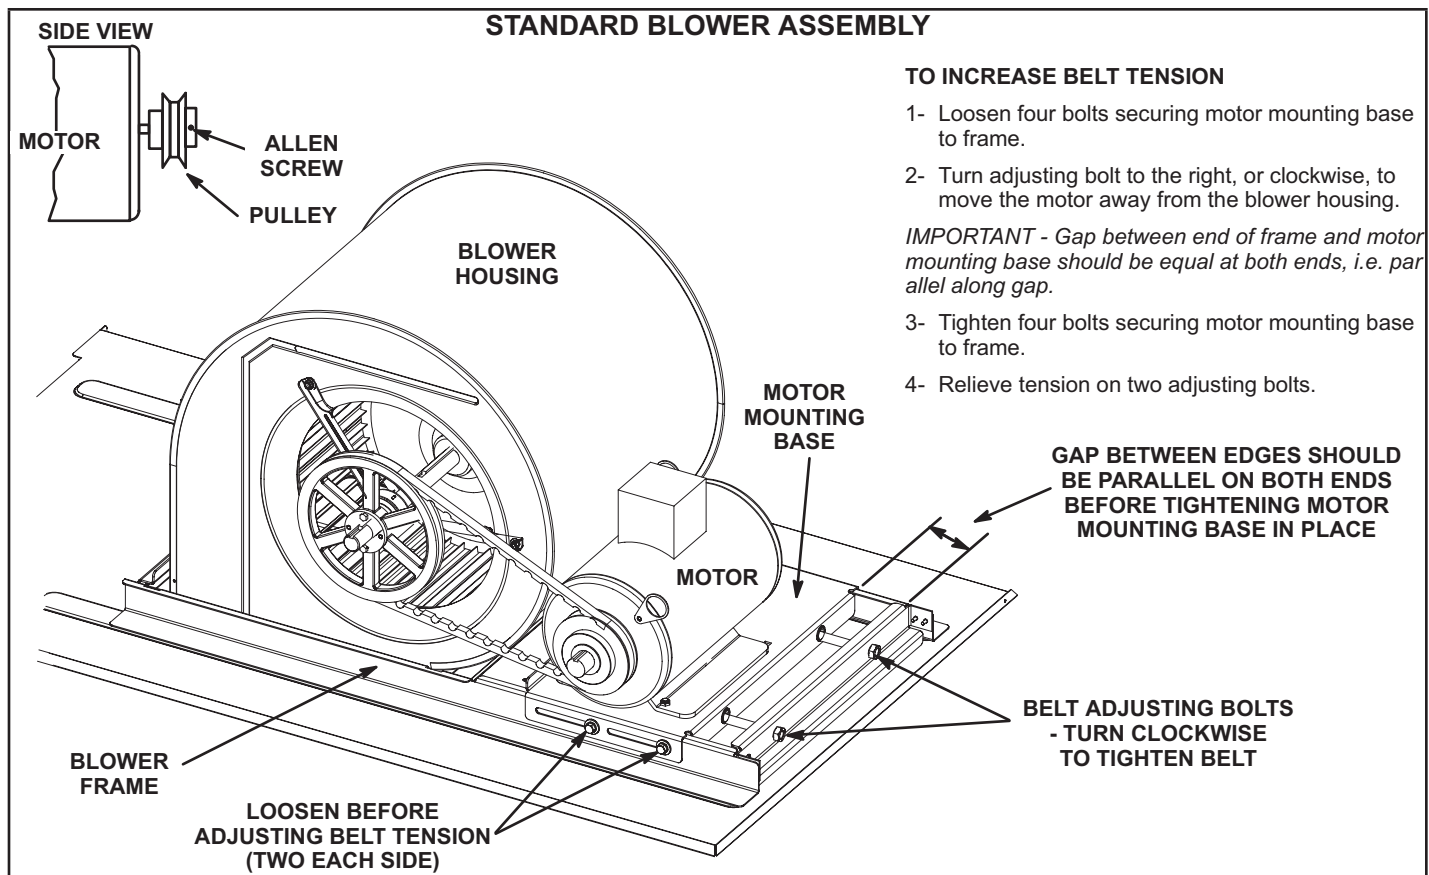

FIGURE 7
- 5 - The blower RPM can be adjusted at the motor pulley. Loosen Allen screw and turn adjustable pulley clockwise to increase CFM. Turn counterclockwise to decrease CFM. See FIGURE 7. Do not exceed minimum and maximum number of pulley turns as shown in TABLE 2.
- 1 - Loosen four bolts securing motor base to mounting frame. See FIGURE 7.